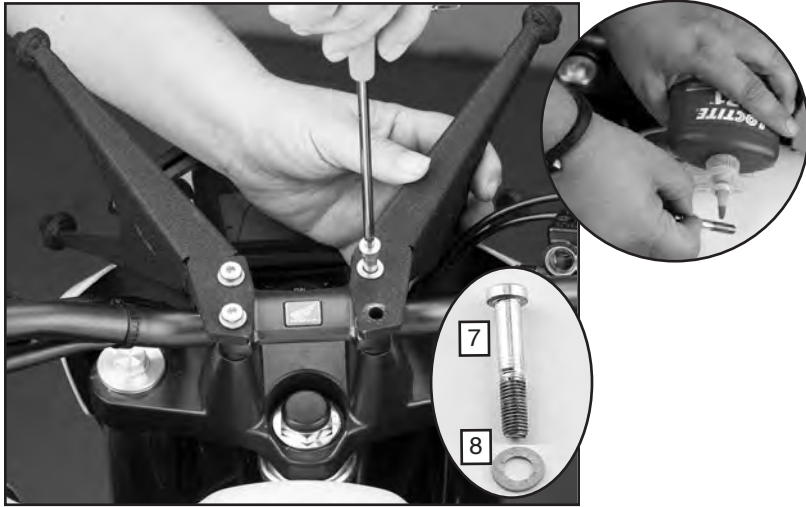

Figure 5
6. Apply a small amount of thread locker on a M8 Screw (7). (Thread Lock) **Figure 5**
7. Use a Washer (8) and M8 Screw (7) to install Bracket (3) onto handlebar clamp. Repeat procedure at lower hole. (5mm Hex Wrench) **Figure 5**